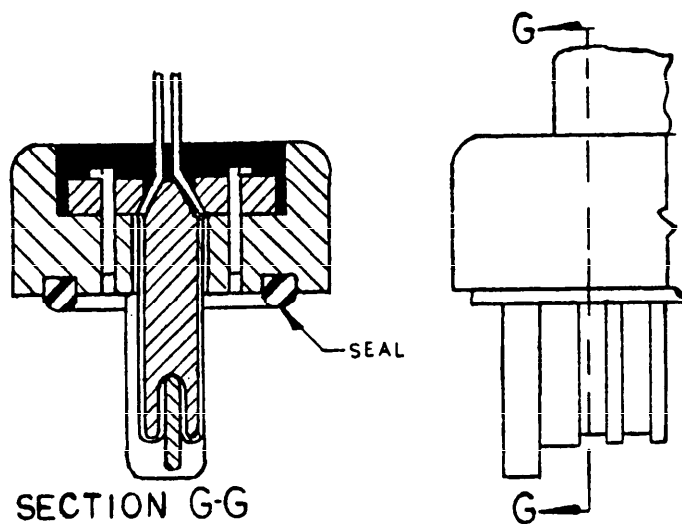

FIGURE 8. Seal installation.
- I. Apply cement to seal groove and effectually seat the seal into the groove. See Figure 8 (Seal Installation). Cure before using.